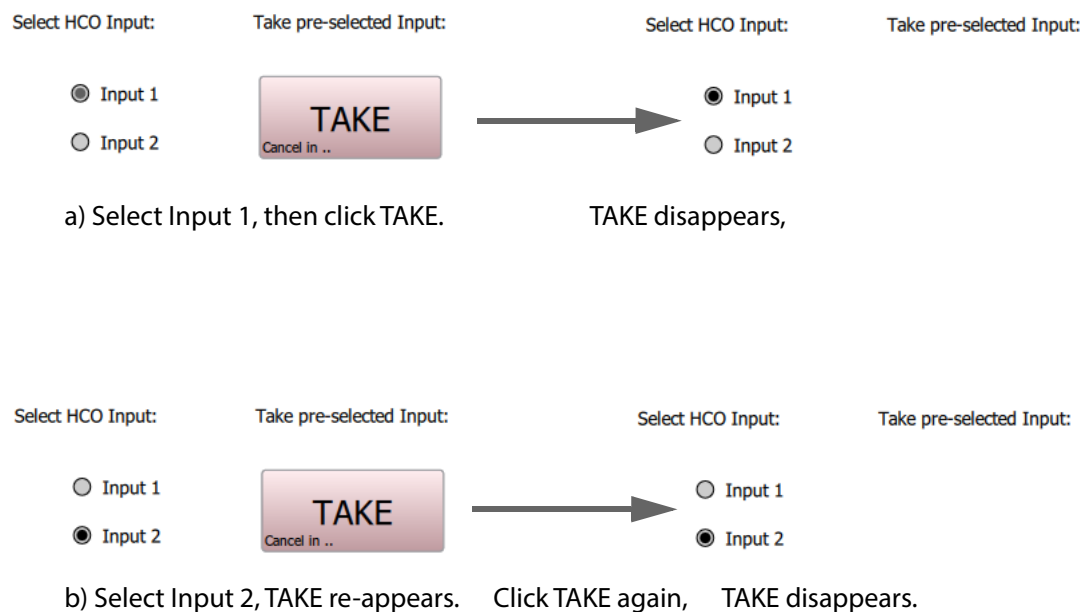

Fig. 8-47: Exercising TAKE Button Visibility
- 1 Click the **Test** button and exercise the radio buttons. (See Figure 8-47.)